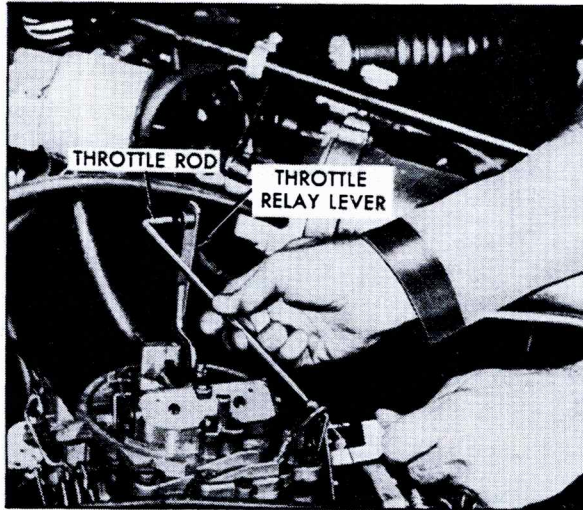

Fig. 6-91 Throttle Rod Adjustment - Except 693
6. Loosen lock nut and turn throttle rod end in either direction as necessary to allow free entry into bushing on relay lever, Fig. 6-91.